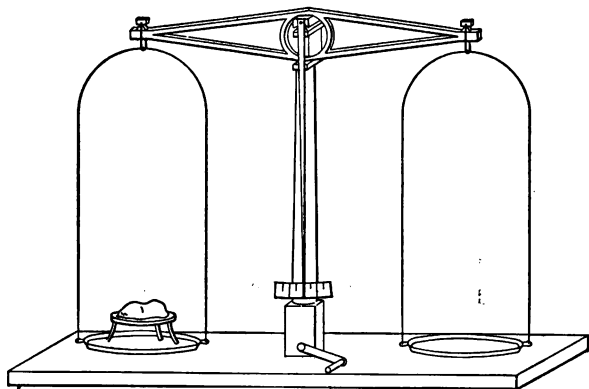

FIG. 14.
M. There is such a thing as burning without flame. The little stars from the iron filings were not flames. We will make an experiment like that now. This black powder is also iron, only in far smaller pieces than ordinary iron filings. I put a small wire tripod on the balance, lay a narrow piece of wire gauze on it, and shake out several grams of iron powder on it (Fig. 14). The whole thing is now made to balance. Then I hold